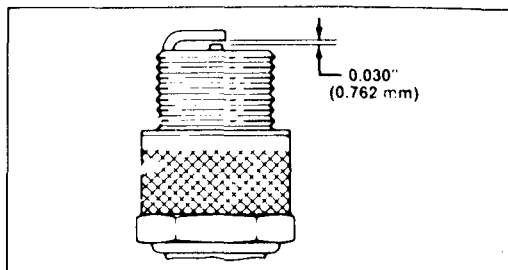

Figure 14
3. Set air gap at 0.0300" (0.762 mm) (Fig. 14). Install correctly gapped spark plug and gasket seal. Tighten plug firmly to 15 ft-lb (20.4 N-m).